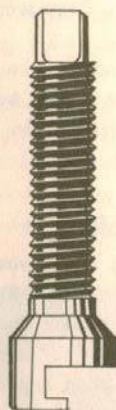

Fig. 3-19. Modifying puller SVO 2301
9. On a reverse shaft with a turned groove (late production), puller SVO 2301 must be modified before use by providing the tongue on the spindle with a groove as shown in Fig. 3-19.